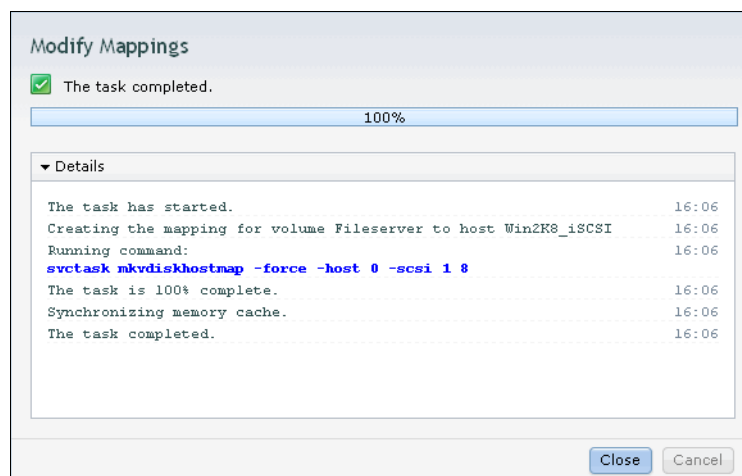

Figure 5-28 Modify mapping complete
5. After the task completes, click **Close**, as shown in Figure 5-28. The wizard returns to the All Hosts window.